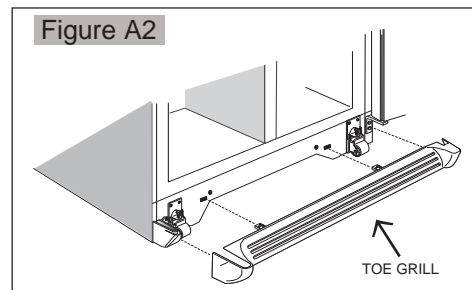

Figure A2
2. Remove toe grill by pulling it straight out. (See Figure A2)